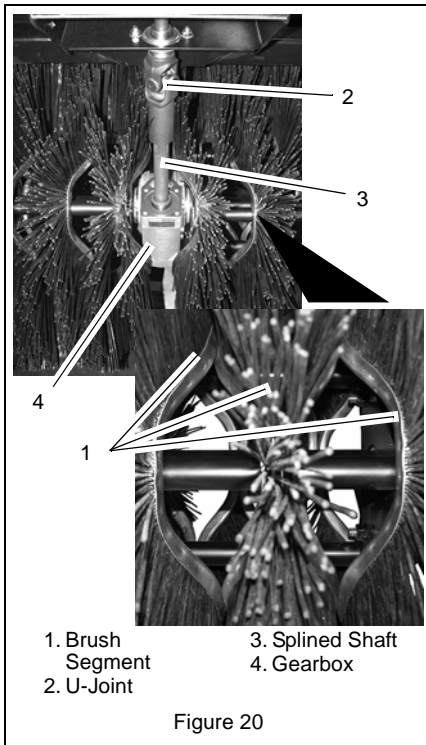

Figure 20
IMPORTANT: Brush gearbox splined shaft will separate from brush housing u-joint. Support splined shaft to prevent damage (Figure 20).
IMPORTANT: Brush segments must be aligned properly so they do not nest together (Figure 20).
13. Install two carriage bolts and nyloc nuts to secure each flanged bearing to the brush housing (Figure 20).